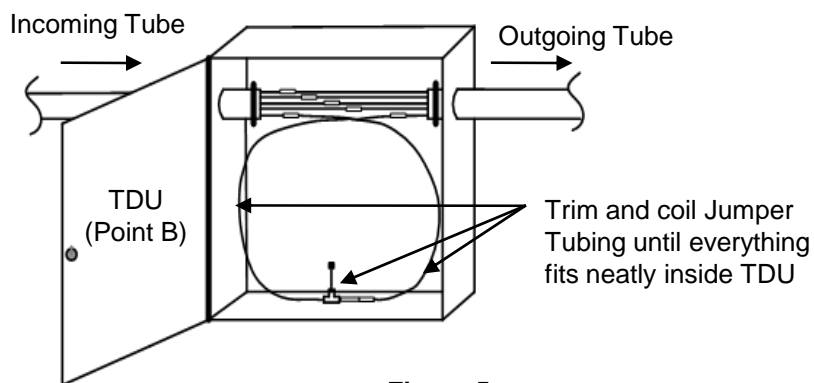

Figure 5
6.6.4 **Key Step.** Test fit and verify all tubing used can be coiled and neatly stored inside Point B TDU after blowing operations are completed. This step must be done before blowing operations begin. **See Fig. 5.**